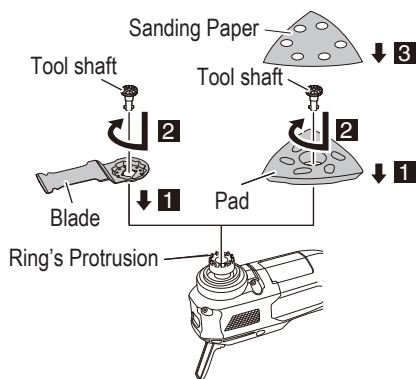

Fig. 10
- (3) Attach the application tool to the attachment ring, making sure the tool's hole is fitted to the ring's protrusion. The angle of attachment for the application tool can be set in 30° increments. (Fig. 10)
- (4) Firmly insert the tool shaft while rotating it clockwise. (Fig. 10)
(6) Align the holes when sticking the sanding paper to the sanding pad. (Fig. 10)